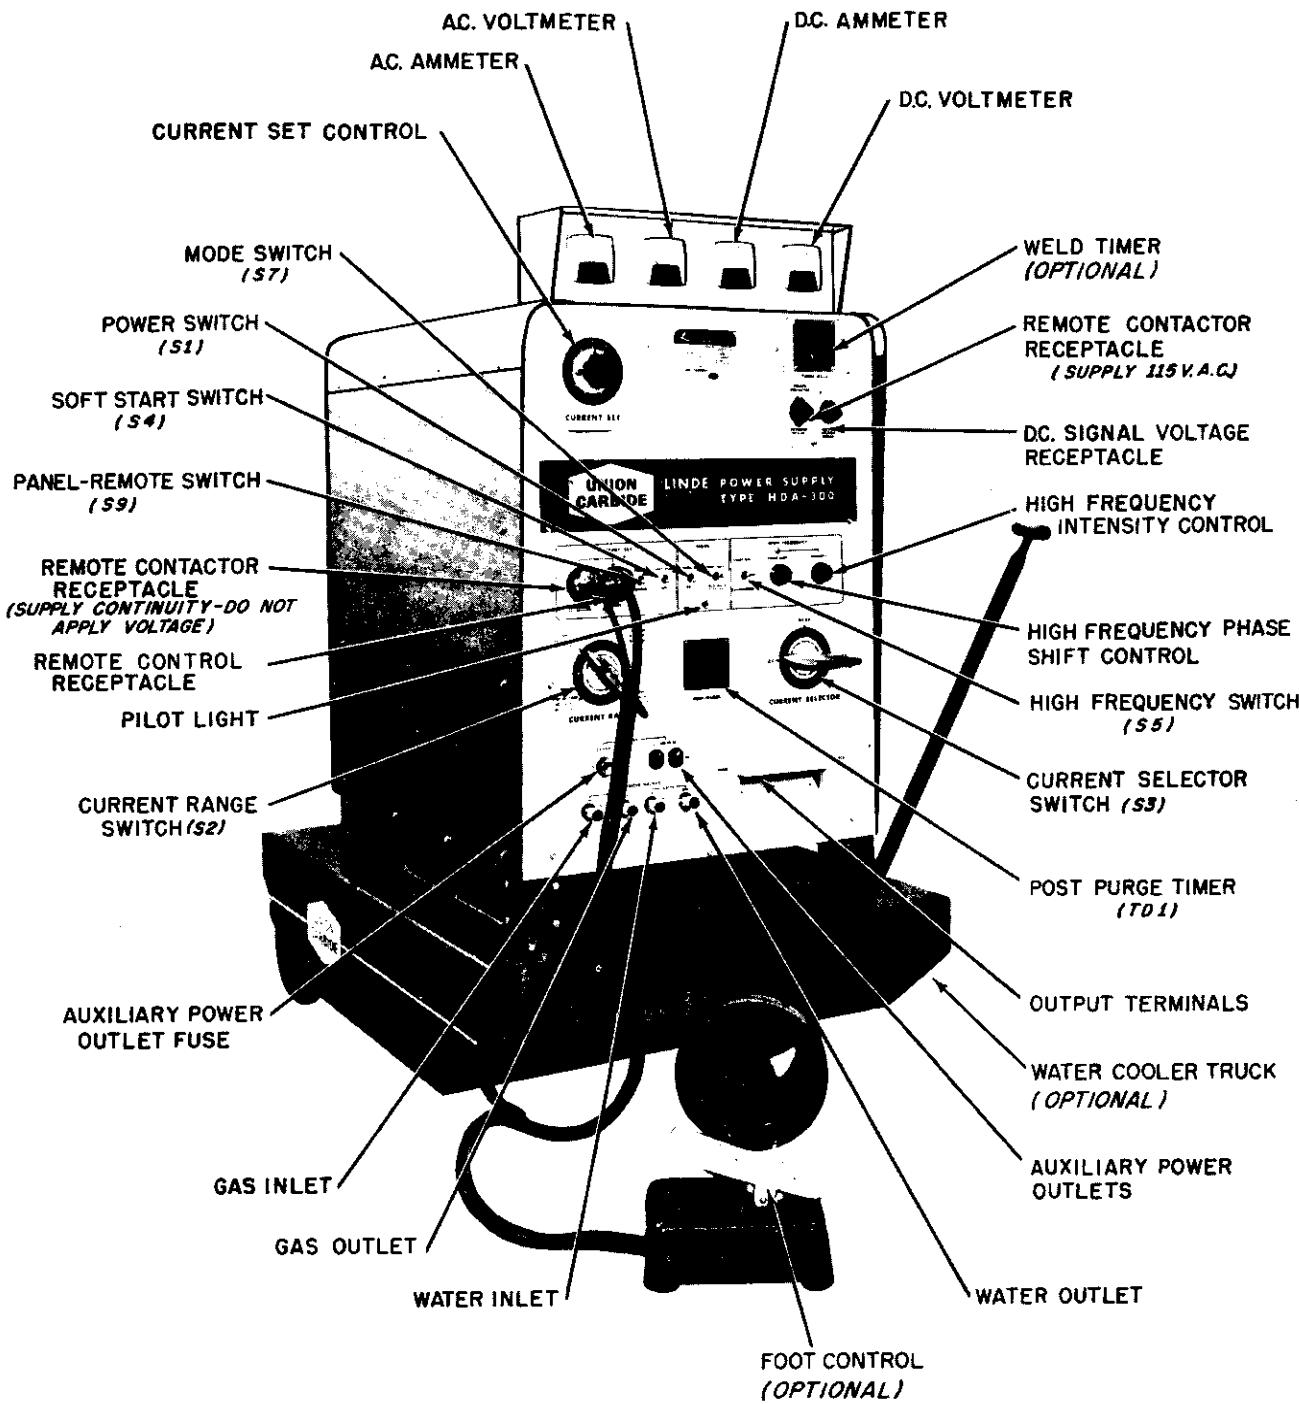

FIG. 2 – HDA-300 Power Supply, Front Panel Controls
4. Close the input (wall disconnect) switch. The input side of the primary contactor and the Line Switch will now be energized. Put the Line Switch in the "POWER ON" position. (See Figure 2). This will energize the fan motor, control transformer and control circuitry.
Before making a weld, set the controls to establish the desired starting conditions. (See Figure 2.)